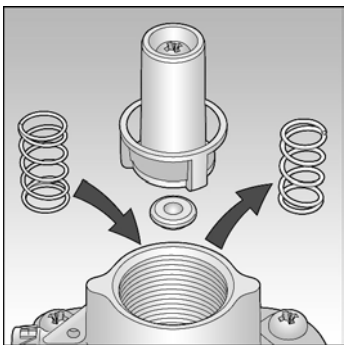

Fig. 12
5. Remove UPSS spring and replace with new one. See Fig. 12.